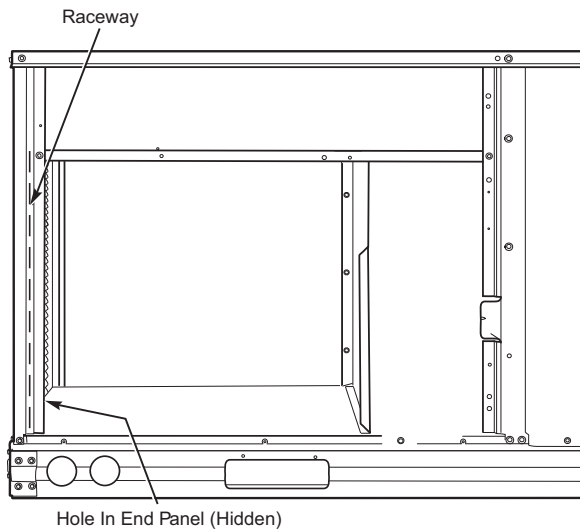

Fig. 33 — Field Control Wiring Raceway
The 48FE unit requires an external temperature control device. This device can be a thermostat (field-supplied) or a SystemVu™ controller (available as factory-installed option, for use on a Carrier Comfort Network® or as a stand-alone control). All field added wire must comply with UL and local NEC standards. See “Unit Without Thru-Base Connection Kit” on page 24 and use routing path shown in Fig. 33 to help with compliance as needed.
Pass the thermostat control wires through the hole provided in the corner post; then feed the wires through the raceway built into the corner post to the control box. Pull the wires over to the terminal strip on the upper-left corner of the Controls Connection Board. See Fig. 33.
2. Feed wires through the raceway built into the corner post (see Fig. 33) to the 24v barrier located on the left side of the control box. The raceway provides the UL-required clearance between high-voltage and low-voltage wiring.
2. Feed wires through the raceway built into the corner post (see Fig. 33) to the 24-v barrier located on the left side of the control box. The raceway provides the UL-required clearance between high-voltage and low-voltage wiring.